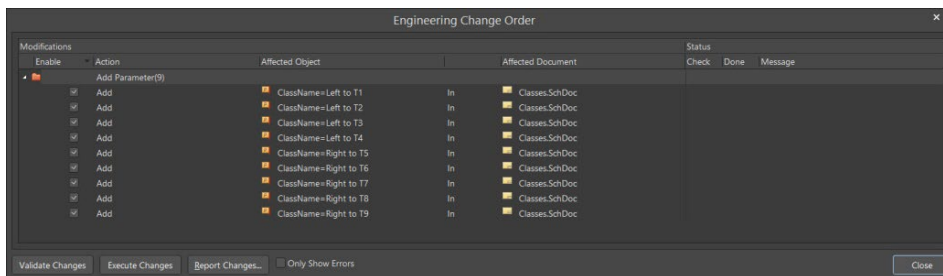

Figure 7. Engineering Change Order
34. Click the **Accept Changes (Create ECO)** to generate an ECO list (Figure 7).